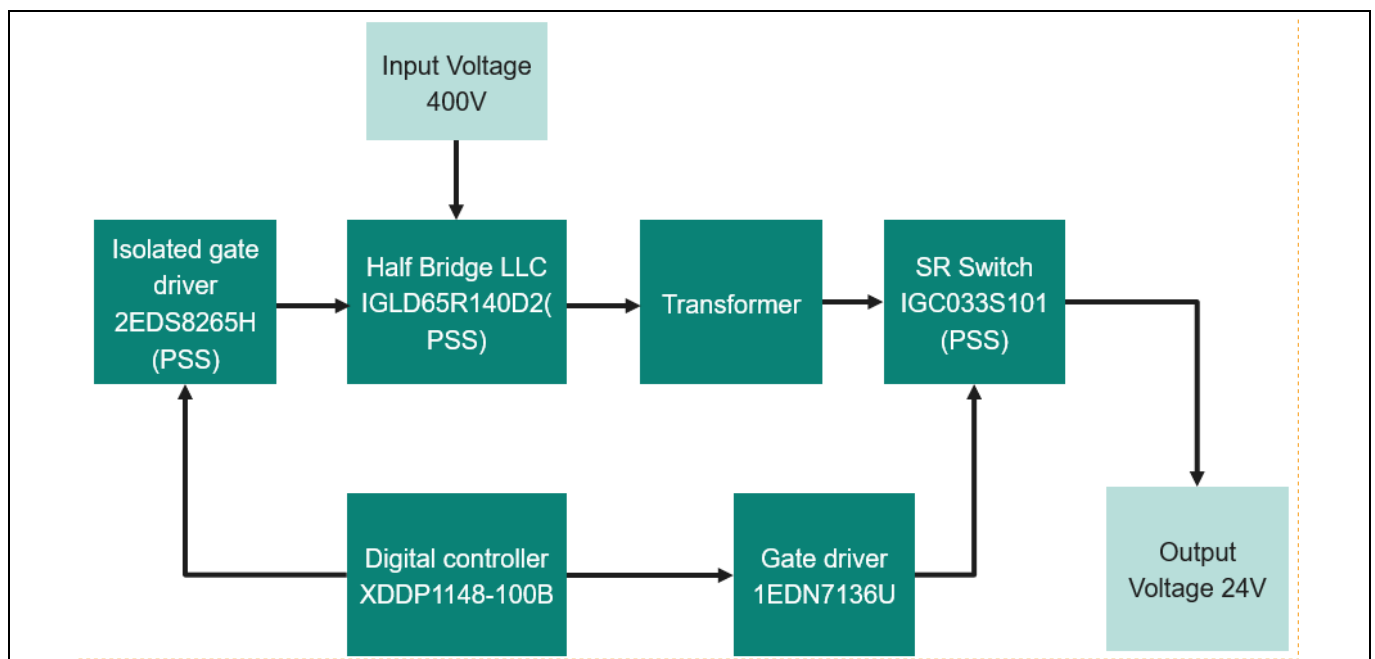
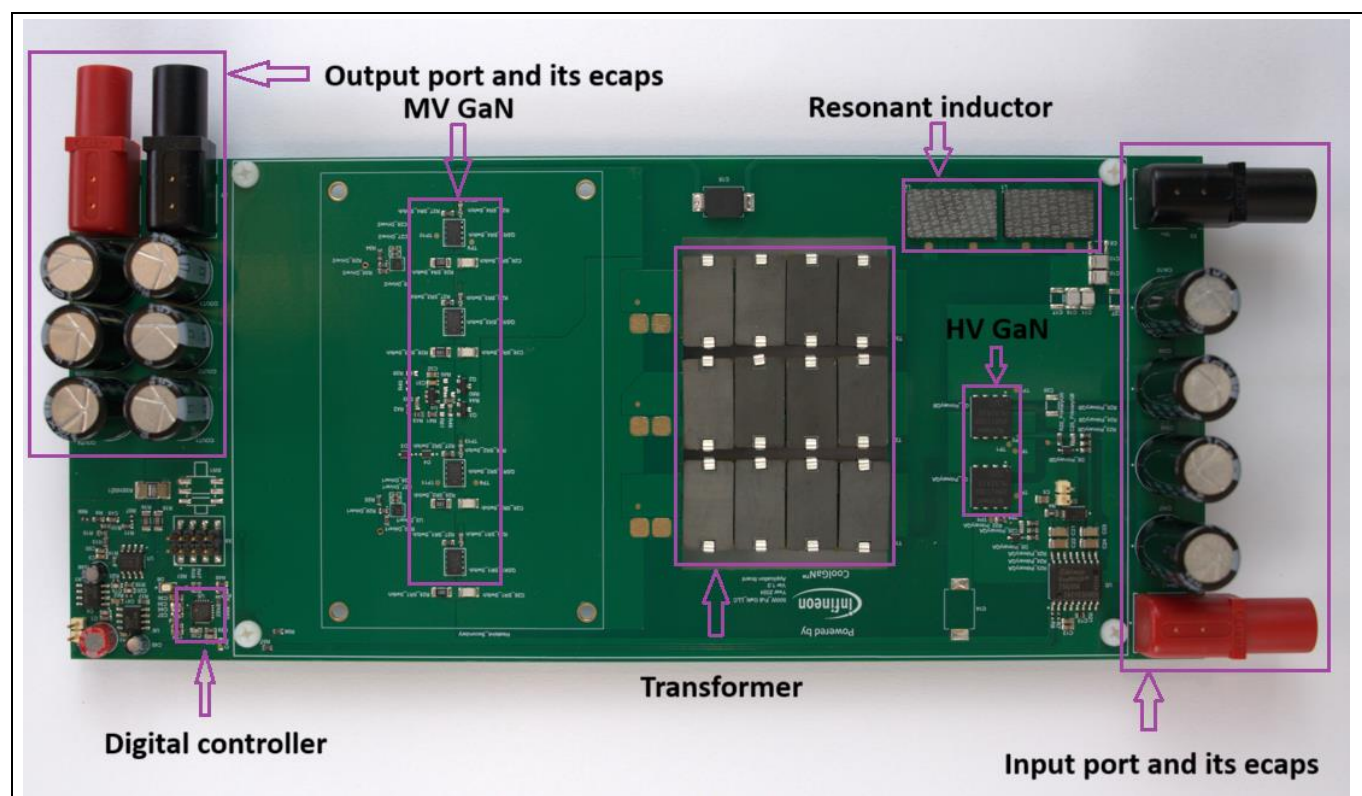

Figure 4 Block diagram of the CoolGaN™ IPS evaluation hardware in ACF topology [3]
Figure 5 Evaluation board sections
The block diagram of the hardware and their functions is shown in Figure 4. The DC input stage includes the input DC source and electrolytic capacitors. The primary side mainly includes the CoolGaN™ Transistor 650 V G5 IGLD65R110D2, two adjacently placed resonant inductors, resonant capacitors, and transformer primary-side windings. The 2EDS8265H isolated gate driver drives the high-side and low-side HV GaN transistor on the primary side through the PWM signals generated from the XDPP1148-100B secondary-side digital controller. The feedback signals to the digital controller are provided by the current-sensing resistor and the output voltage resistor divider. The output voltage is regulated by the resistor divider, and it is set to regulate the output DC voltage at 22 V. The synchronous rectifier (SR) IGC033S101 MV GaN transistor is driven by the gate driver through the PWM signals generated from the same digital controller as the primary PWM. Figure 5 shows a different section of the reference board.